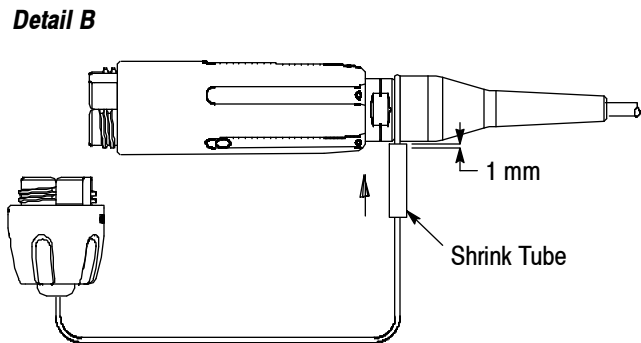
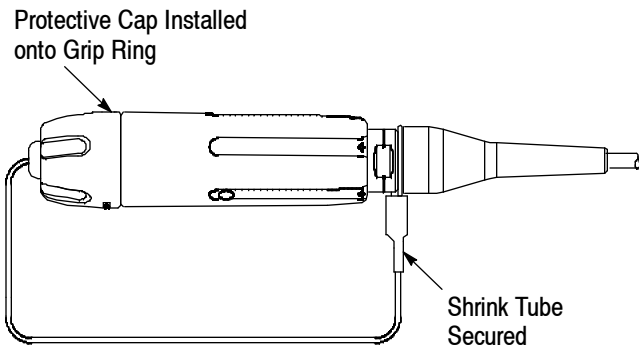

Figure 17
Figure 18
1. Loop the tether wire around the groove between the boot and the outer extension, and feed the end of the tether wire into the open end of the tether crimp sleeve. Pull approximately 3 to 5 mm of the tether wire through the tether crimp sleeve. See Figure 17, Detail A.
3. Slide the shrink tube over the tether crimp sleeve until it hangs over the top of the crimp sleeve by 1 mm. See Figure 17, Detail B.
4. Using the heat gun, and starting at the top of the shrink tube, apply heat to the shrink tube until it shrinks evenly and is secure. Thread the protective cap onto the grip ring. Finger-tighten the protective cap. See Figure 18.
- Modified Figure 17 (which Figure 18 is part of)